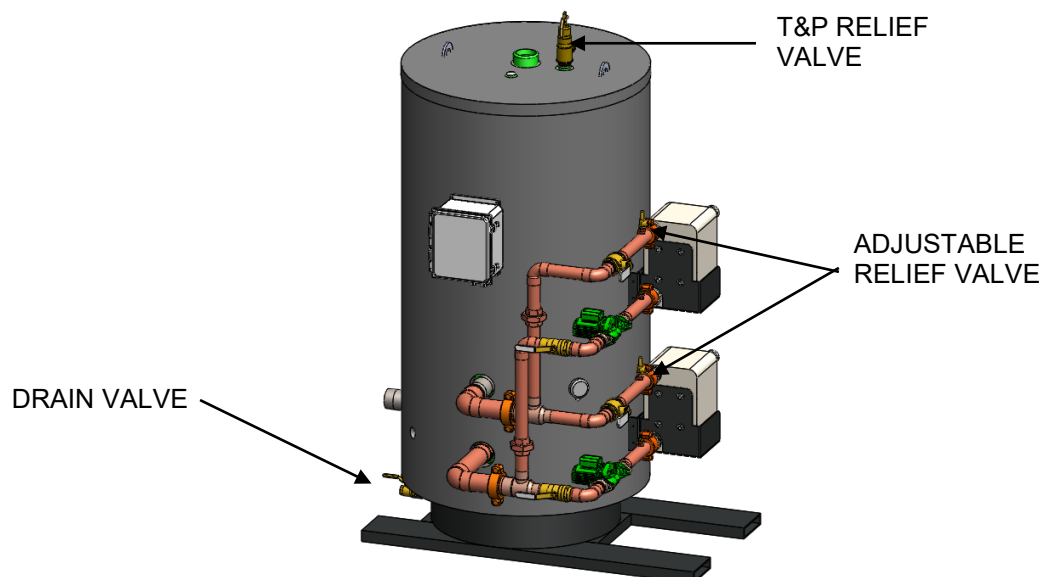

FIGURE 4-4: T&P or Adjustable Relief Valve Installation Locations
3. Unscrew and remove the relief valve from its mounting location (Fig. 4-4).